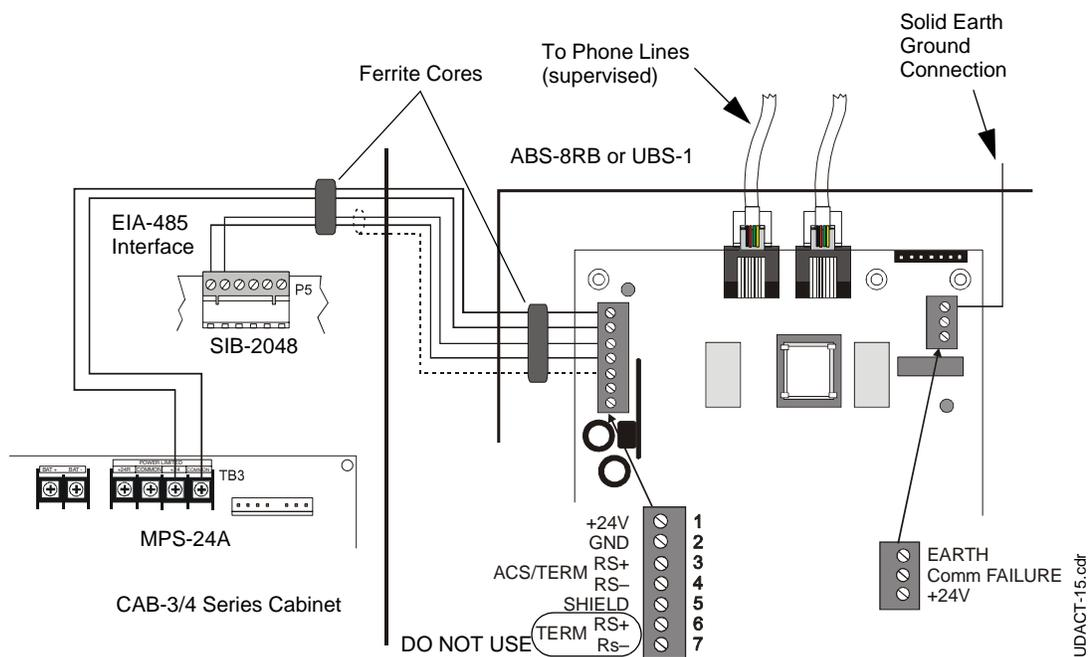
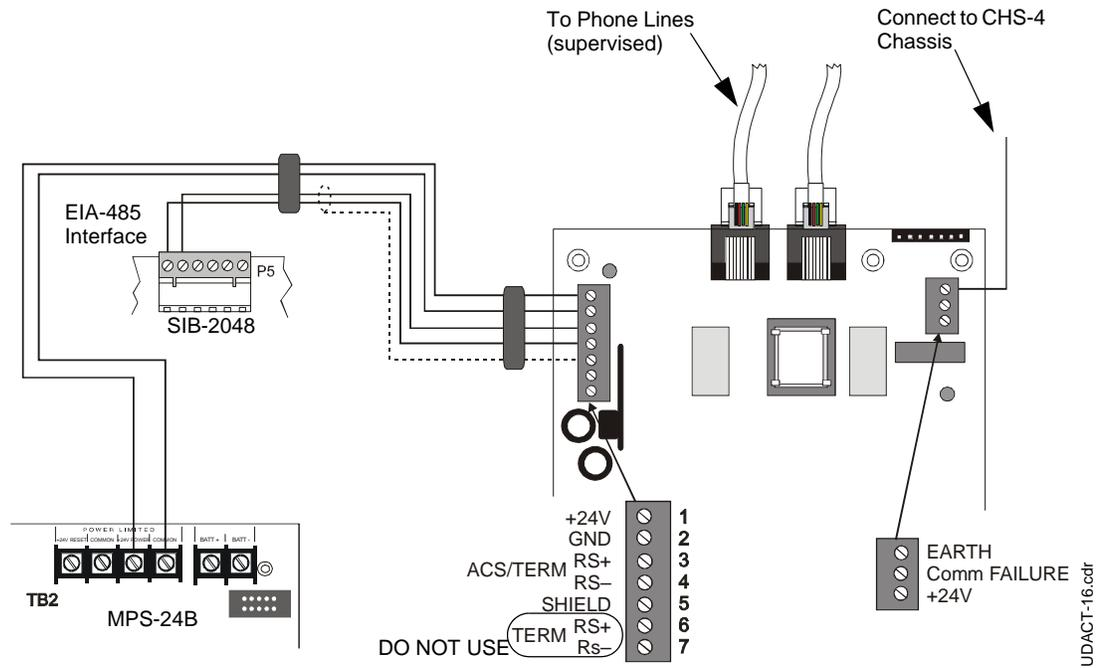

Figure H.1 UDACT and AM2020/AFP1010 with MPS-24A
Figure H.2 UDACT and AM2020/AFP1010 with MPS-24B
Refer to Figure H.1 and Figure H.2 on page 105.
2. Recommended wire is 12 AWG (3.25mm²) to 18 AWG (0.75mm²), twisted pair, shielded cable. Connect only one end of shield: a) shield may be connected to cabinet (earth ground) at fire alarm panel, or b) shield may be connected to TB1 Terminal 5 (Shield) at UDACT as shown in Figure H.1.